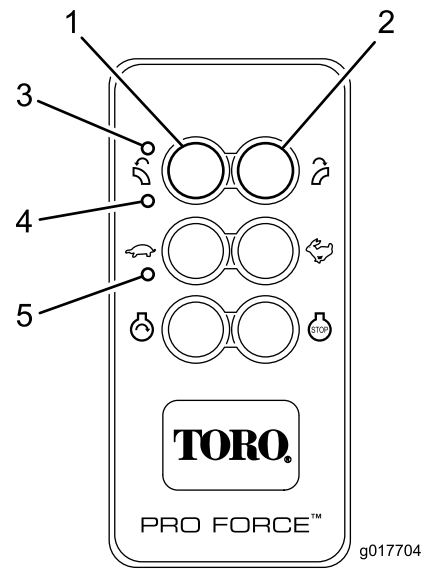

Figure 12
The remote control activates (powers up) when any push button is pressed. Blinking TX and RX LEDs indicate that the remote control is alive and communicating with the base unit. To conserve battery power, the remote control stays active for approximately three (3) seconds before automatically shutting down unless there is button activity within the three second limit. When the unit times out and powers down, all remote control LED activity stops (Figure 12). Pressing any button will reactivate the remote control